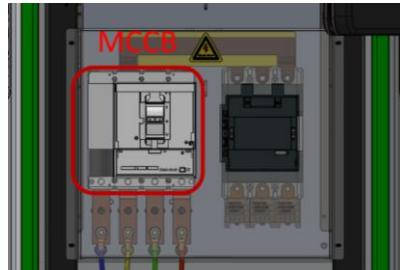

Fig. 5-7 MCCB
- Open the cabinet door, open the molded case circuit breaker (MCCB) as shown in Fig.5-7, power off the DC charging station.